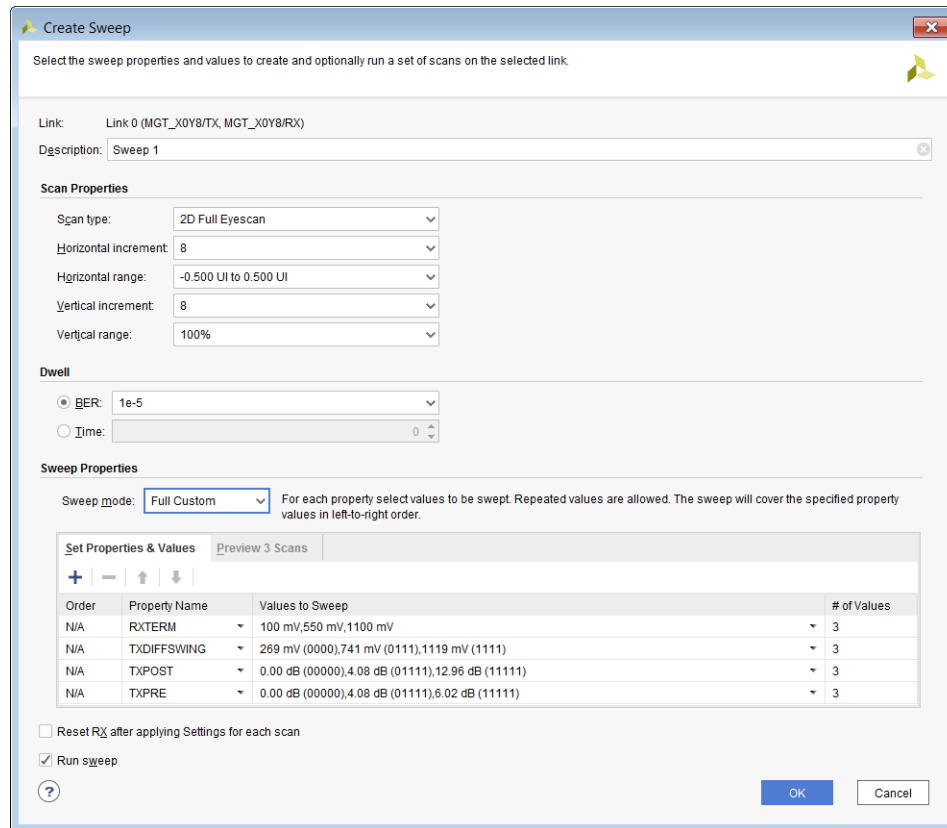

Figure 15-8: Sweep Properties Dialog Box
- In the Semi Custom case shown in Figure 15-8, every combination of the properties chosen is defined for a single scan, and that scan is performed according to the sweep properties. The number of sweeps that are performed, and in what order can be previewed by selecting the **Preview & Scans** tab.